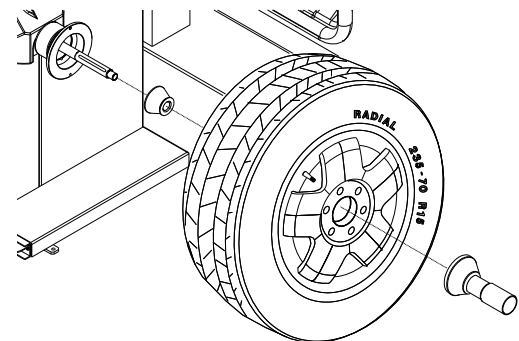

Figure 12d
2. Mount wheel on shaft in the same manner as you would on the car. See Figure 12d